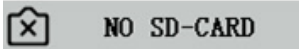

Figure 6-1
1. When pressing the snapshot button, recording videos, taking pictures at a fixed time or entering the SD card management menu, “NO SD-CARD” will appear, as shown in Figure 6-1. Please insert the SD card with FAT32 file system into the SD card slot on the right side of the camera, and then perform the corresponding operations.